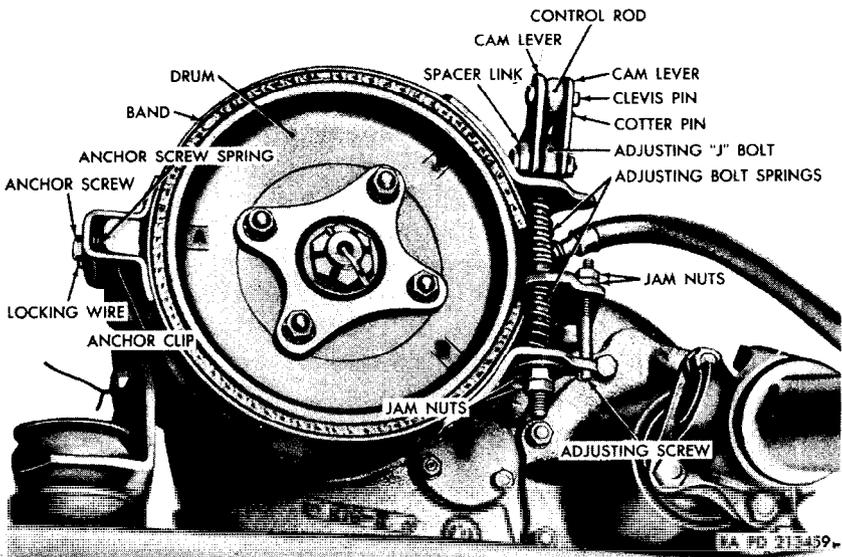

Figure 183. Handbrake band adjustment.
a. Adjust Handbrake Band (fig. 183).
- (1) Place the vehicle on a level floor and place the handbrake in the fully released position.
- (2) Remove the cotter pin and clevis pin that attach the control rod to the cam levers.
- (3) Remove the locking wire from the anchor screw.
- (4) Loosen the two jamnuts on the adjusting J-bolt and the two jamnuts on the adjusting screw.
- (5) Insert a 0.015-inch thickness gage between the brake lining and the drum at the anchor clip (point A). Turn the anchor screw as required until slight friction is felt as the gage is withdrawn.
- (6) Insert the thickness gage at point B and turn the upper nut on the adjusting J-bolt as required to establish the same clearance as at point A.
- (7) Insert the thickness gage at point C, hold the adjusting screw, and turn the lower nut on the adjusting screw as required to establish the same clearance as at points A and B.
- (8) Check the clearance between the lining and the drum at several points. Clearance should be approximately 0.015 inch at all points.
- (9) When the adjustment has been completed, tighten the jamnuts on the adjusting J-bolt and the adjusting screw. Secure the anchor screw with locking wire, attaching the wire to the
- (1) With the brake control rod detached from the cam levers (*a*(2) above), loosen the nut at the yoke end of the brake control rod (G, fig. 162) and turn the rod in the yoke until the eye of the rod is in alinement with the clevis pin holes in the two cam levers (fig. 183).
- (2) Attach the control rod to the cam levers with the clevis pin and $\frac{5}{32} \times 1$ cotter pin.
- (3) Tighten the nut against the yoke.